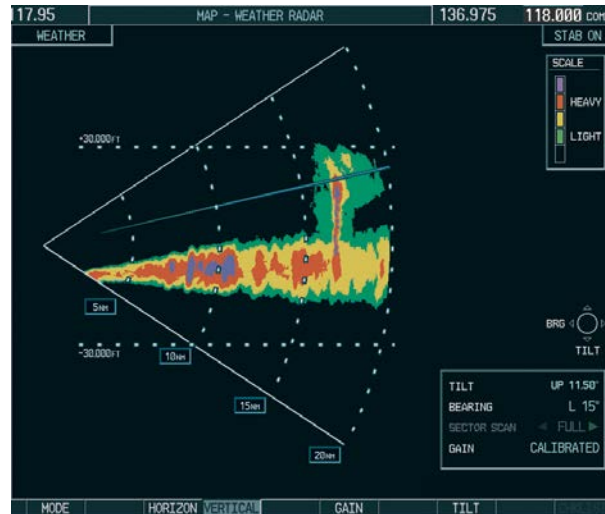

Figure 6-100 Vertical Scan Display
- 4) Select the **VERTICAL** Softkey. A vertical scan of the selected area is displayed (Figure 6-100).